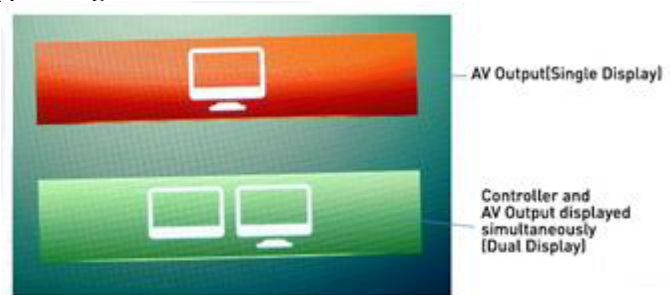

Figure 15 AV Output (Single Display): Same operation method
24. Connect the video output cable to the mini video output port, the image below will appear. **Fig. 15**